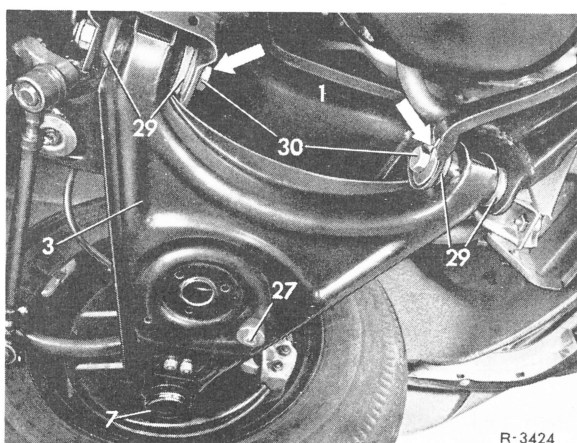

Fig. 4
The front wheel camber is adjusted by swivelling the lower control arm at rear bearing (29) by means of cams (30) (Fig. 4 to 6). Note that the caster will be changed accordingly.